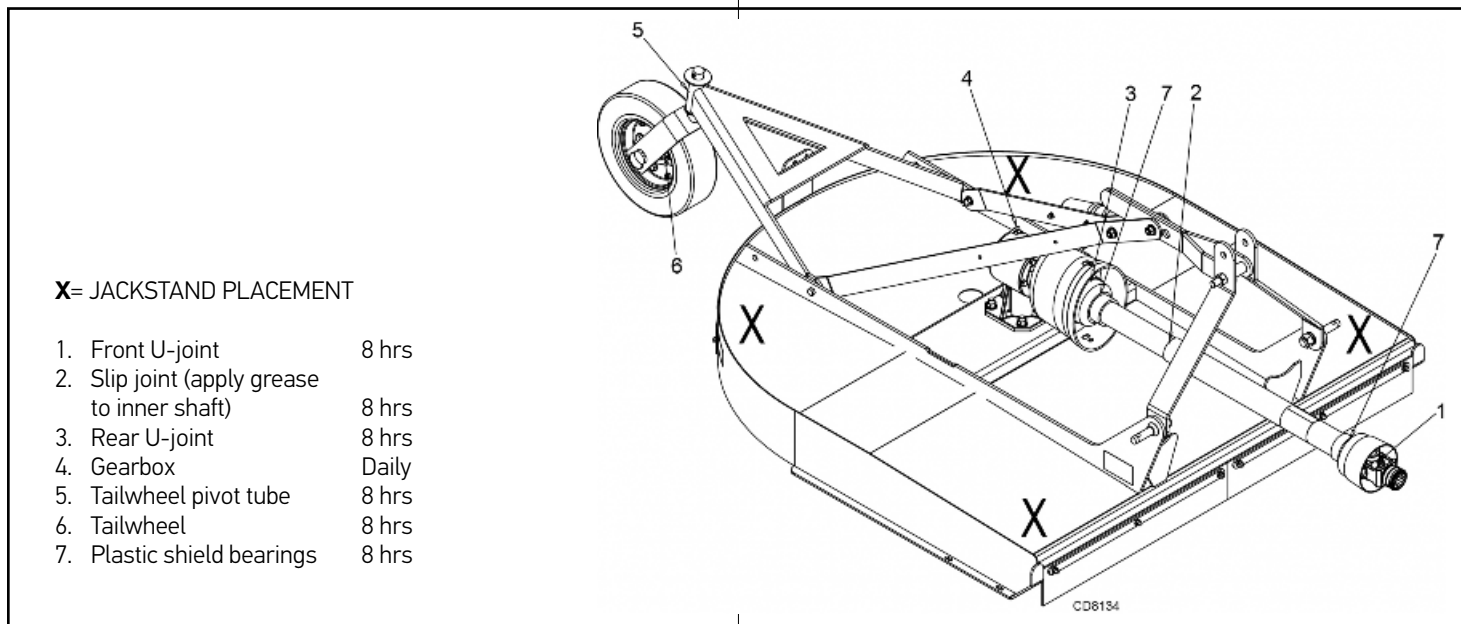

Figure 10. Jackstand Placement and Lubrication Points
1. Jackstands with a load rating of 1000 lbs or more are the only approved blocking device for this cutter. Install a minimum of four jackstands (shown by **Xs** in Figure 10) under the cutter before working underneath unit.
2. See Figure 10 for lubrication points and frequency of lubrication based on normal operating conditions. Severe or unusual conditions may require more frequent lubrication.